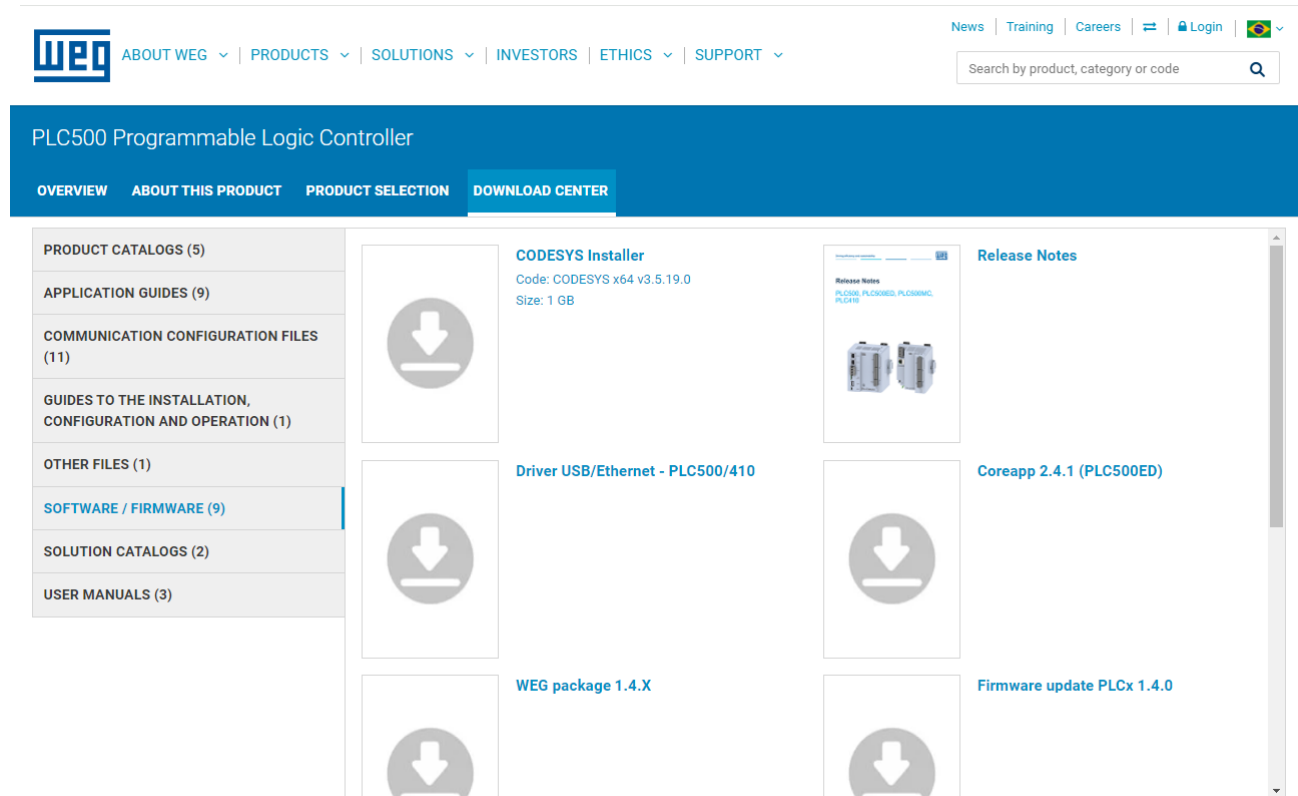

Figure 5.2: Download Center from the WEG website.
- Access the WEG website and download the latest available firmware version. Figure 5.2 shows the **Download Center** page, where the available firmware update files and WEG product packages for Codesys can be found.